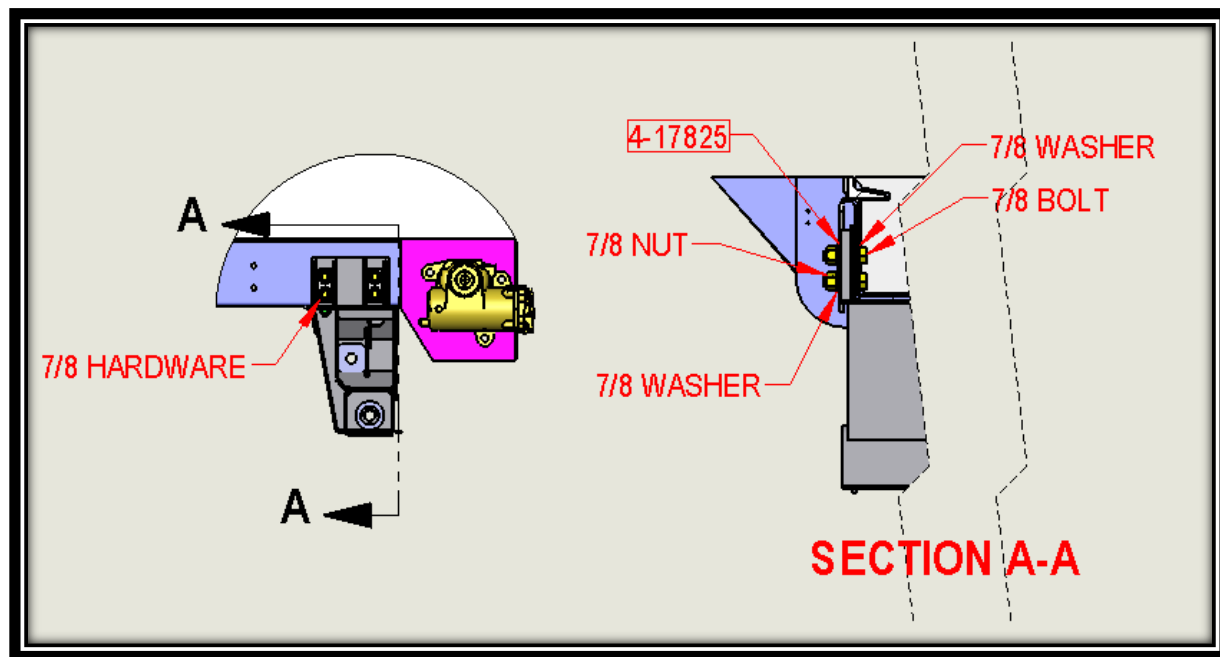

FIG. 4-2
3. Install 7/8 bolt, flat washer, from inside of suspension mount & thru Ridewell suspension hanger. Install spacer 4-17825, with bevels facing Ridewell suspension hanger, flat washer & hex nut. Torque to 505 lbf-ft. (4) places. Refer to FIG. 4-2.